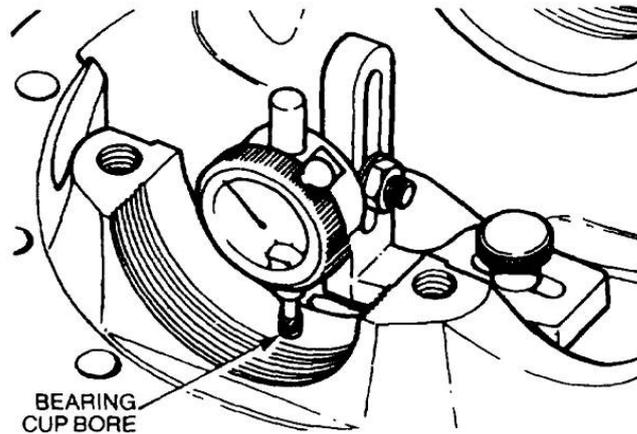

Figure 262 Measuring the Pinion Shaft Height
- q. Position the magnetized base of the dial indicator on the pinion shaft end-face, and rest the stylus on the lowest point of one differential cup bore (Figure 262). Note the dial indicator deviation from the zero setting.